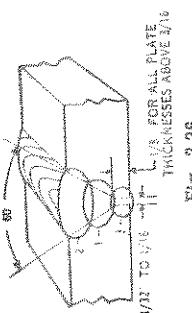

Fig. 2-36.
*Where the plates cannot be turned over, chip into bead 1 (Figure 2-36) and put the last pass in overhead with $\frac{3}{16}$ " E6010 or E6011 with the current adjusted to produce an electrode melt-off of approximately $8\frac{1}{2}$ " per minute.